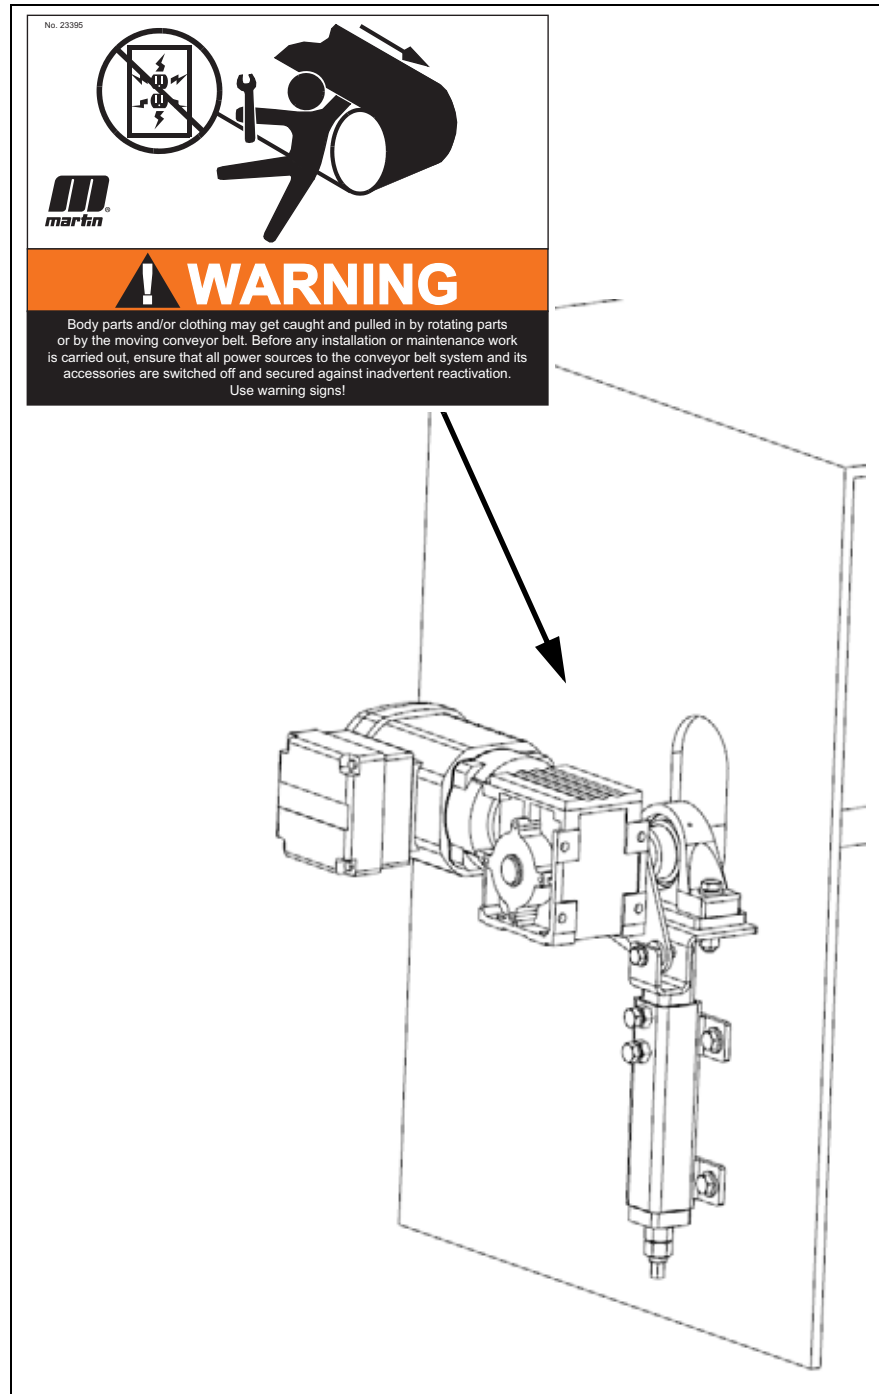

Fig. 12:
1. Loosen the clamping screws (1, Fig. 12).
2. Loosen the lock nut (4, Fig. 12).
3. Loosen the securing nut (2, Fig. 12).
4. Turn the adjusting screw (3, Fig. 12) anticlockwise till the cleaning elements are pressed against the conveyor belt.
6. If the cleaning elements are in the correct position, tighten the clamping screws (1, Fig. 12).
7. Tighten the securing nut (4, Fig. 12).
8. Tighten the lock nut (2, Fig. 12).